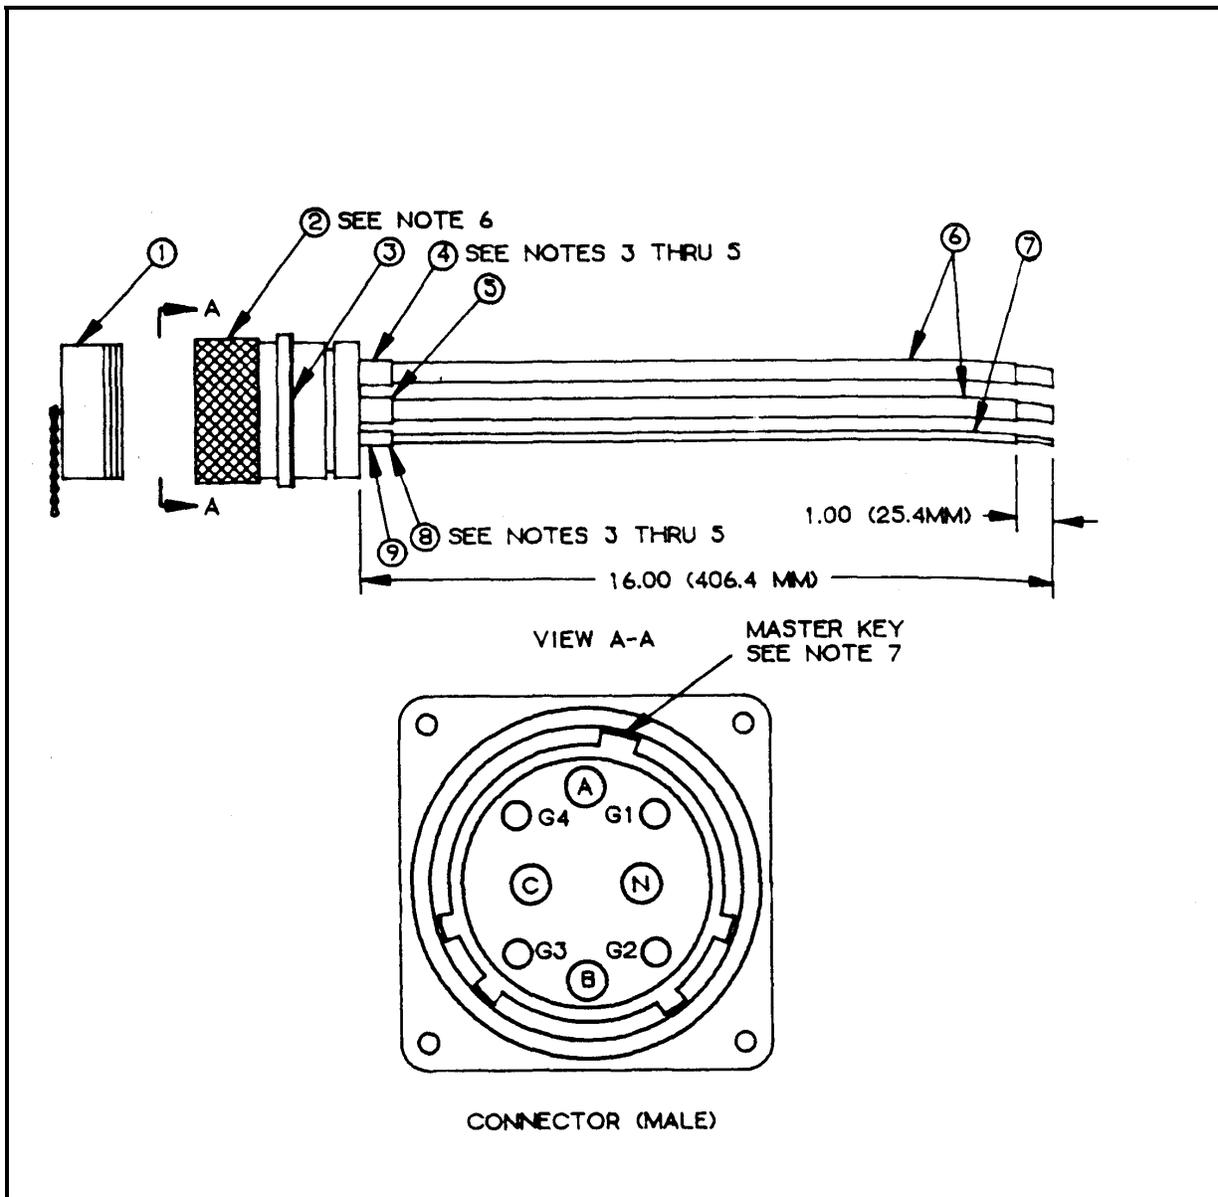

Figure F-5. 200-Amp, Input Connector Assembly, (J1)
Component Legend for Figure F-5
- c. Electrical connector (Figure F-5, Item 2) is furnished with the following: